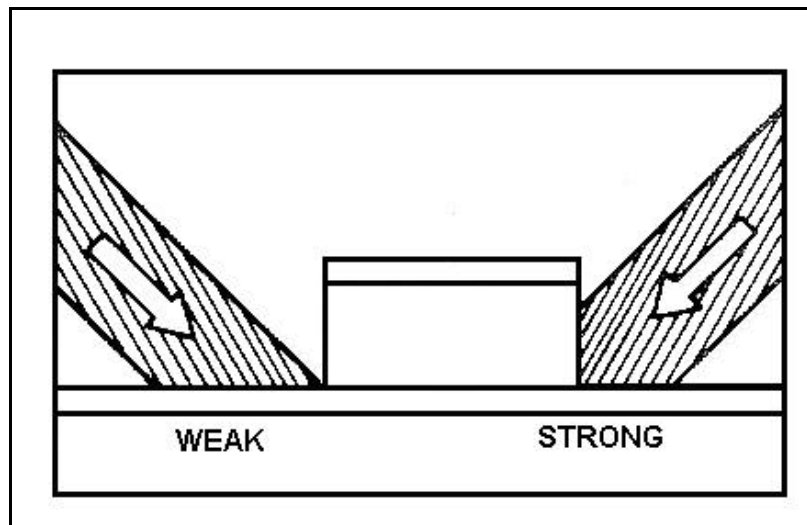
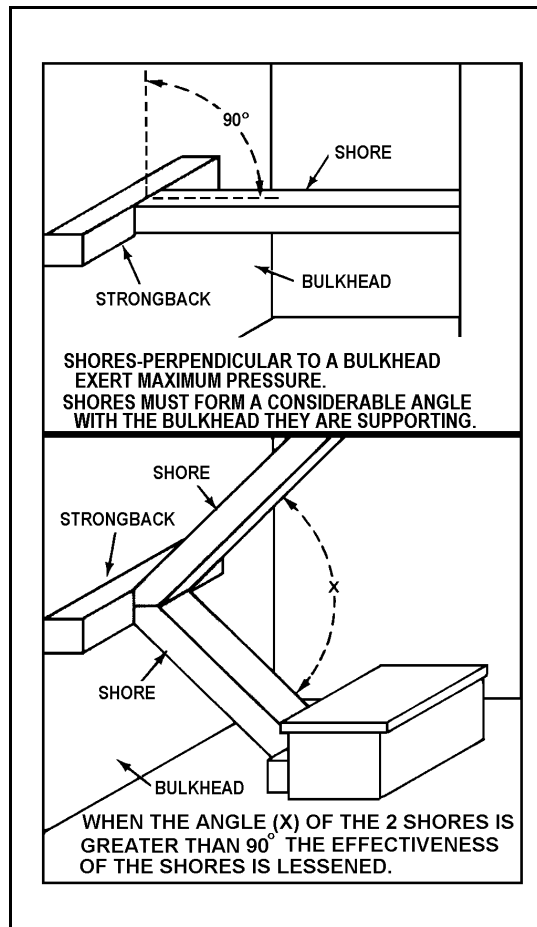

Figure 22-2. Anchoring Fit
Figure 22-3. Correct Shoring Angles
- Spread the pressure. Make full use of strength members by anchoring shores against beams, stringers, frames, stiffeners, and stanchions (see Figure 22-2). Place the legs of shoring against strongbacks at angles from 45° to 90° (see Figure 22-3).